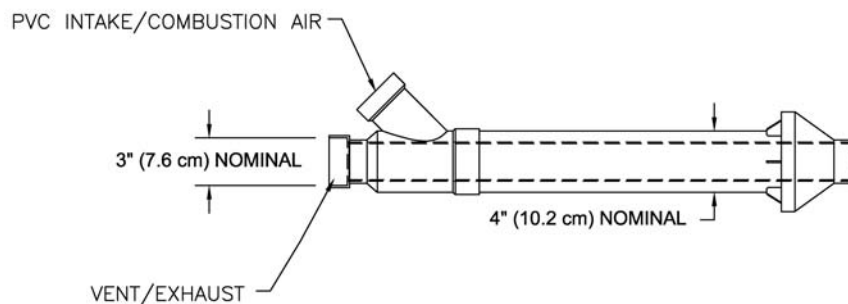

Figure 19. Dimensional Layout of Concentric Vent Kit (239-44069-01 3" Kit shown).
If assembly is too short to meet height requirements, the two pipes supplied in the kit may be replaced by using the same diameter pipe. DO NOT extend the overall dimension by more than 60 inches. See Figure 19.
- Become familiar with coaxial vent kit part no. 239-44069-01, as shown in Figures 19 through 21. For venting 4 inch (10.2 cm) or 2 inch (5.1 cm) diameter pipe, use the appropriate bell reducer to reduce to the 3 inch (7.6 cm) diameter vent size to connect to the 3 inch (7.6 cm) vent terminal connections. If the 2 inch diameter concentric vent kit is preferred with 2 inch diameter pipe, then order concentric vent kit part no. 239-44069-02 from your supplier.